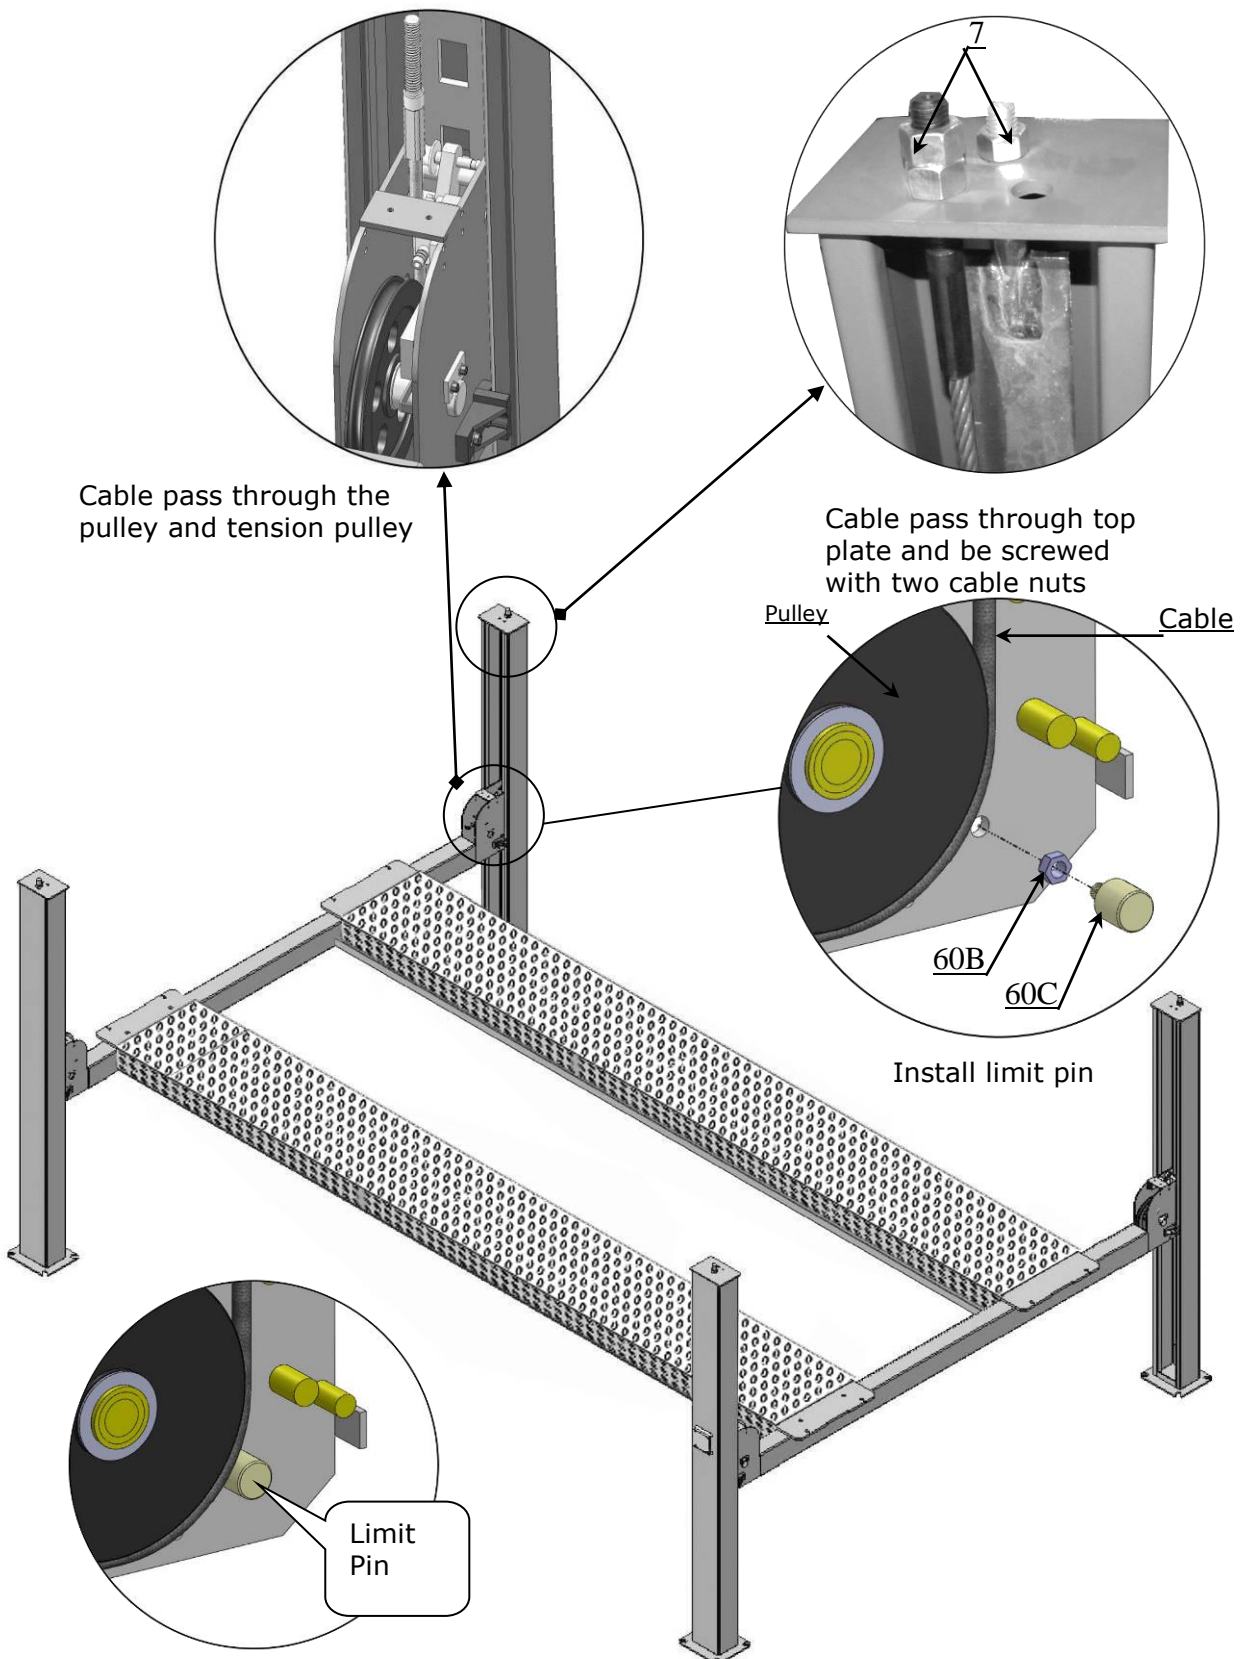

Fig. 22
2. The cable pass through cross beam and top plate of column and be screwed with cable nuts (**See Fig. 22**).
3. After cables pass through the pulleys under the platform, installing the Slack-cable bolts No.19 (See Fig. 22).